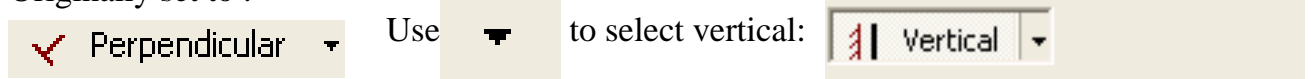

Figure 2.4.6: Making Lines Vertical and Horizontal:
7. Using this command, and make two lines vertical. Click on the horizontal command and make 2 horizontal. If error message comes up hit cancel. This makes it so all of our lines are straight. (Figure 2.4.6)